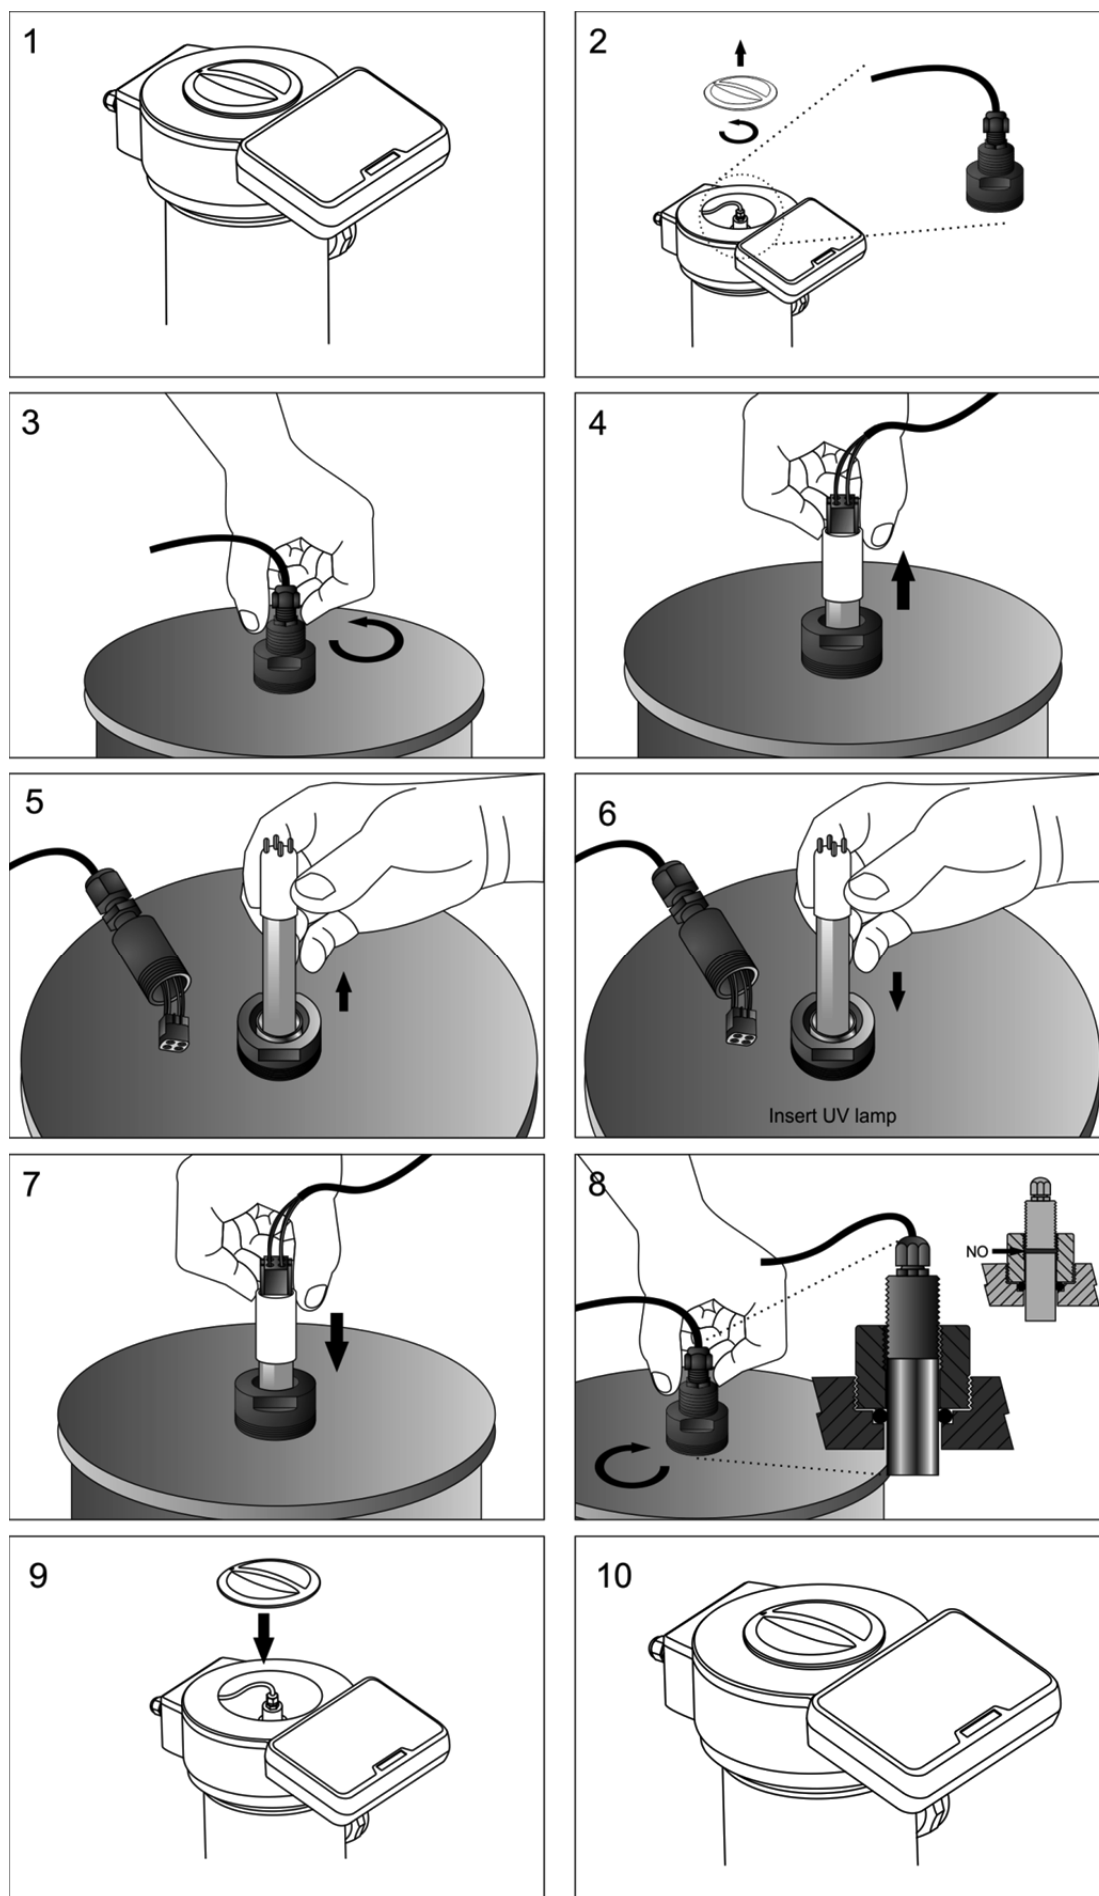

Fig. 5
Please, see Fig. 5.
- 11.- Reassemble the lamp as described in Section 7.1 (Fig.5, steps [7] to [10]).